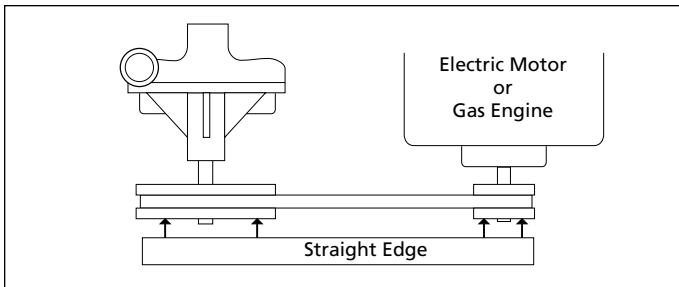

Figure 1 – Belt/Pulley Drive Installation
2. Mount pulleys as close to the pump and motor engine shaft bearings as possible. Check the alignment with a straight edge as shown in Figure 1. Make sure that the belt has proper tension. (Too much tension will cause bearing wear; too little will cause slippage). See Figure 2. Check with belt and pulley sources for specific recommendation. A safety shield (belt guard) must be installed over the motor/pump pulleys and belts.